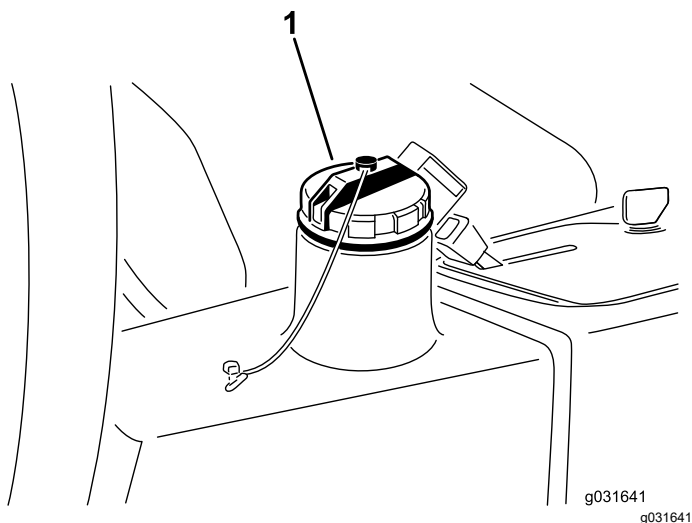

Figure 64
4. Fill the reservoir (Figure 64) with approximately 13.2 L (3.5 US gallons) of hydraulic fluid; refer to Checking the Hydraulic System \(page 50\).